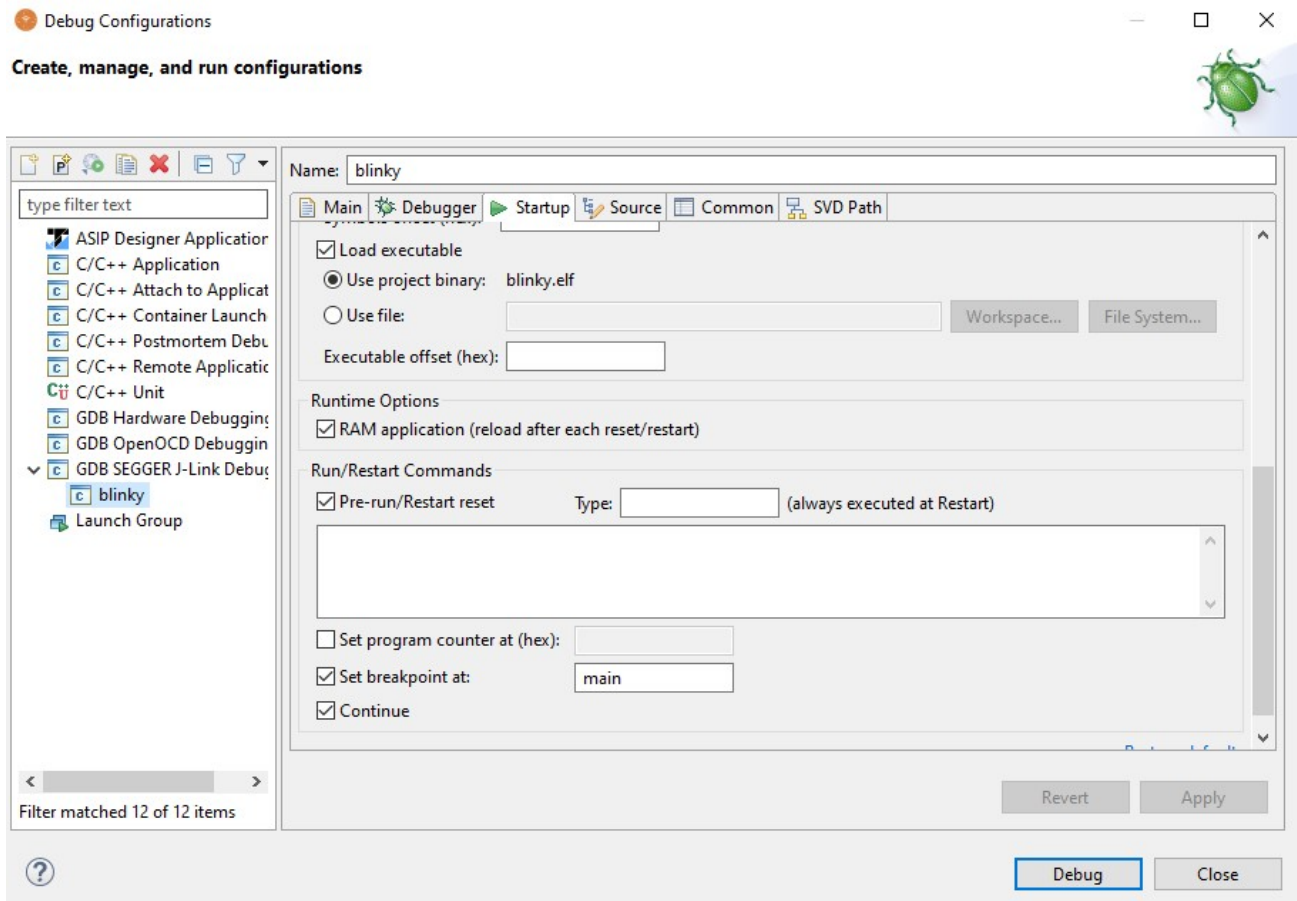

Figure 24. Selecting Runtime Options
- c. In the **Startup** tab view under **Runtime Options**, tick the box labeled **RAM application (reload after each reset/restart)**, as seen in figure "Selecting Runtime Options" (Figure 24).